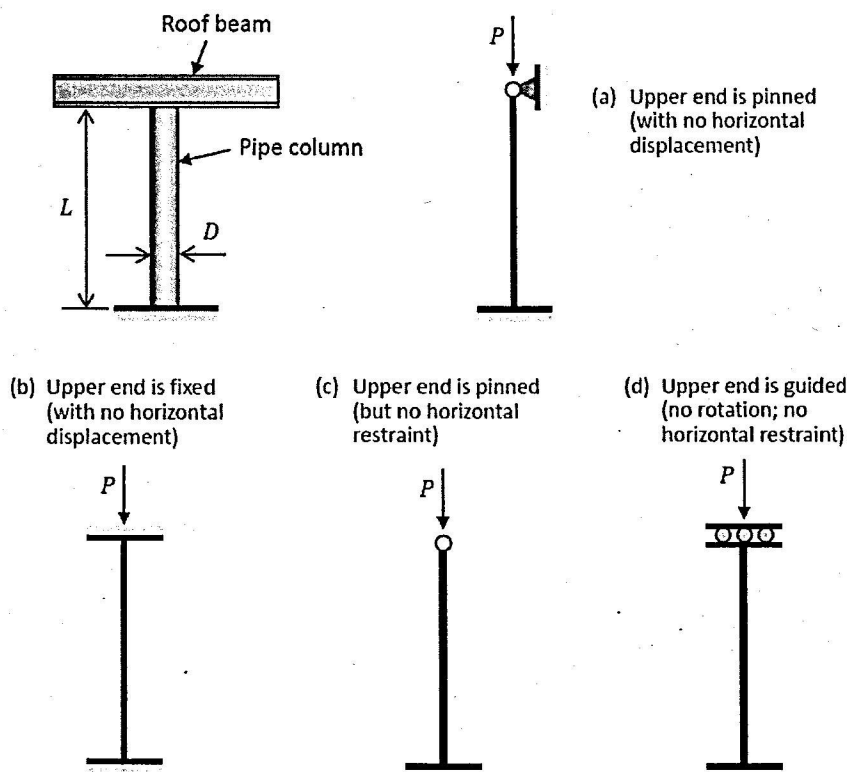

Fig. 2
1.2. [10 Points] The roof beams of a warehouse are supported by pipe columns, as shown in Fig. 2. Each pipe column has a diameter D , a length L , Young's modulus E , and a fixed support at the base. Determine the **critical buckling load** for one of these columns under the following assumptions: (a) the upper end is pinned and the beam prevents horizontal displacement; (b) the upper end is fixed against rotation and the beam prevents horizontal displacement; (c) the upper end is pinned but the beam is free to move horizontally; (d) the upper end is fixed against rotation but the beam is free to move horizontally. Answer the following questions: